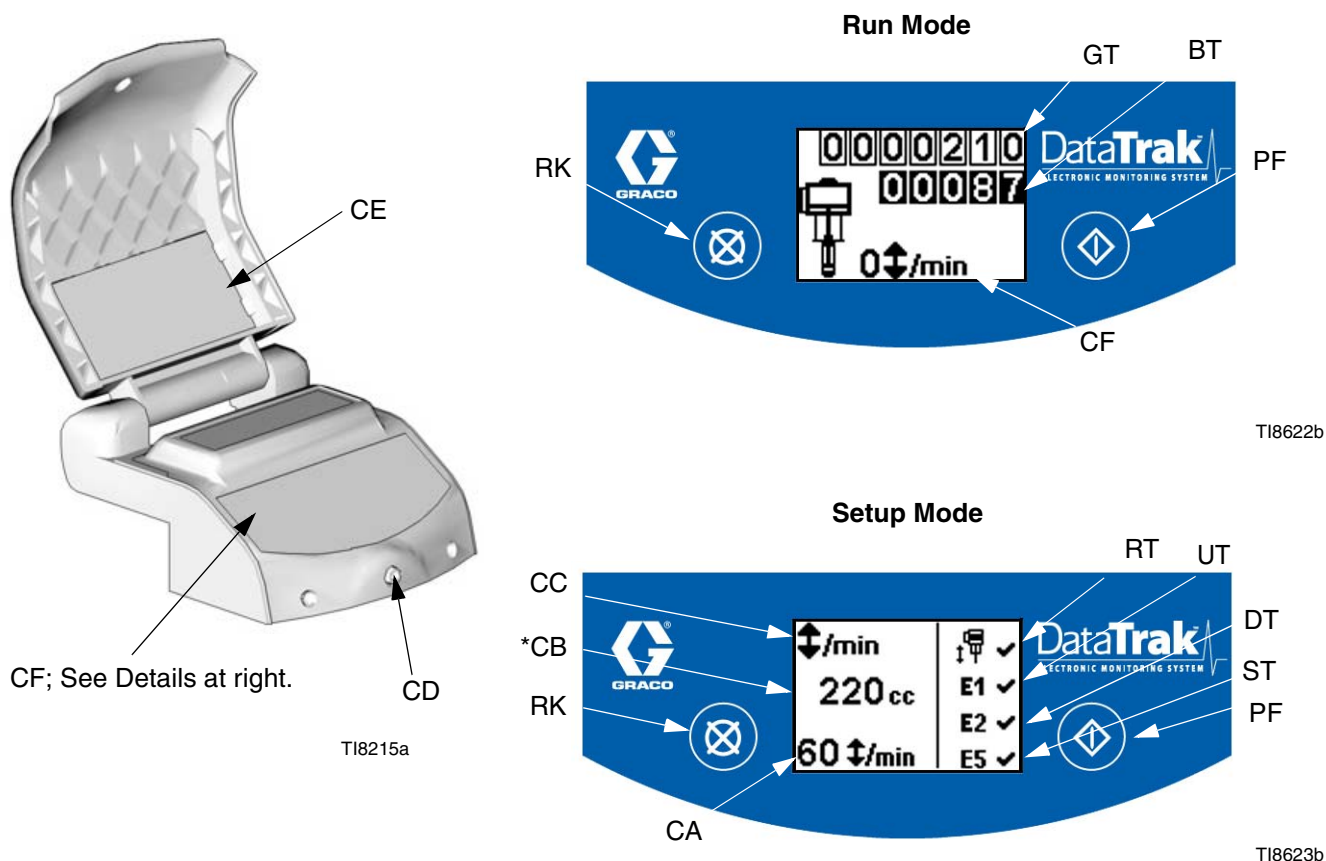

FIG. 31. DataTrak Controls and Indicators
NOTE: See FIG. 31. The display (Y) will turn off after 1 minute of inactivity in Run mode or 3 minutes in Setup mode. Press any key to wake up the display. DataTrak will continue to count cycles when display is off.
1. See FIG. 31. Press and hold  for 5 seconds until Setup menu appears.
NOTE: When runaway, E1, E2, and E5 error options are enabled, a ✓ will appear on the setup screen. See FIG. 31.
1. See FIG. 31. If pump runaway occurs, the runaway solenoid will actuate, stopping the pump. The LED (CD) will flash and the display (CF) will indicate a runaway condition (see Table 1).
2. To reset runaway monitor, close shutoff valve (AP). Wait for air to completely bleed off the air motor before going to the next step. The screen will change to indicate this, as shown below.
4. Open shutoff valve (AP) to restart pump.
NOTE: To disable runaway monitoring, go to setup mode and set runaway value (CA) to 0 (zero) or disable (RT)  (see FIG. 31).
1. See FIG. 31. To enter Prime/Flush mode, press any key to wake up the display, then press . The Prime/Flush symbol will appear flashing in the display and the LED will flash
2. While in Prime/Flush mode, runaway protection is disabled and the batch totalizer (BT) will not count.
See FIG. 31. The last digit of the batch totalizer (BT) represents tenths of gallons or liters. To reset the totalizer, press any key to wake up the display, then press and